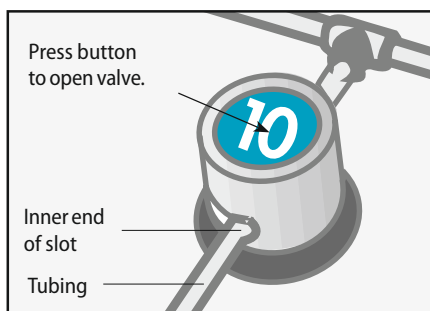

Figure 4-3.5: Correctly inserted tubing
- If the tubing has to be adjusted after a valve has been closed, do not pull the tubing without pressing the valve button to open the valve (see Figure 4-3.5).
2. Reinspect the tubing in each valve. Be certain that the tubing enters and leaves each valve through the enlargement at the inner end of the slot and is positioned in the center of the jaws of the valve (see Figure 4-3.5). Check that the tubing is not kinked or twisted and does not show any tendency to move away from the center of the pinch valve.